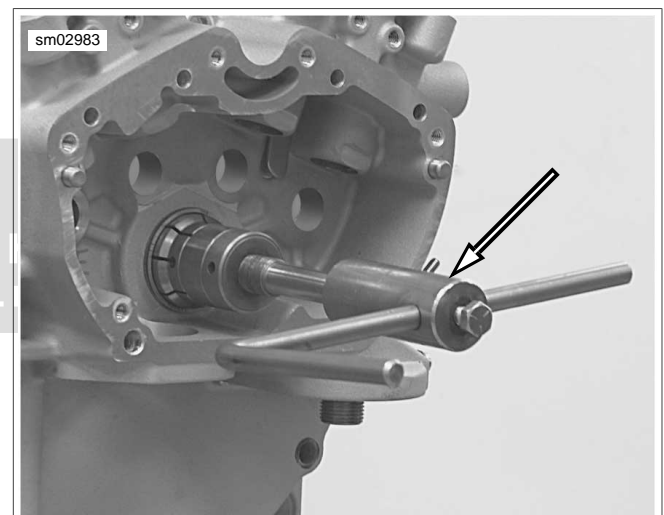

Figure 3-133. Lapping Pinion Shaft Bearing Outer Race with Crankcase Main Bearing Lapping Tool
- See Figure 3-133. Obtain CRANKCASE MAIN BEARING LAPPING TOOL (Part No. HD-96710-40D). Assemble CRANKCASE MAIN BEARING LAP (Part No. HD-96718-